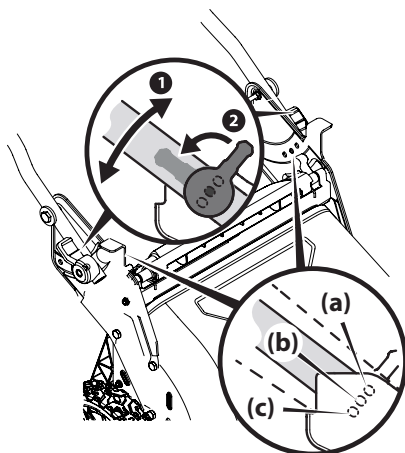

Figure 2
3. Place the handle into one of the three handle height positions, low (a), medium (b) or high (c), located on the handle brackets. See Figure 2.